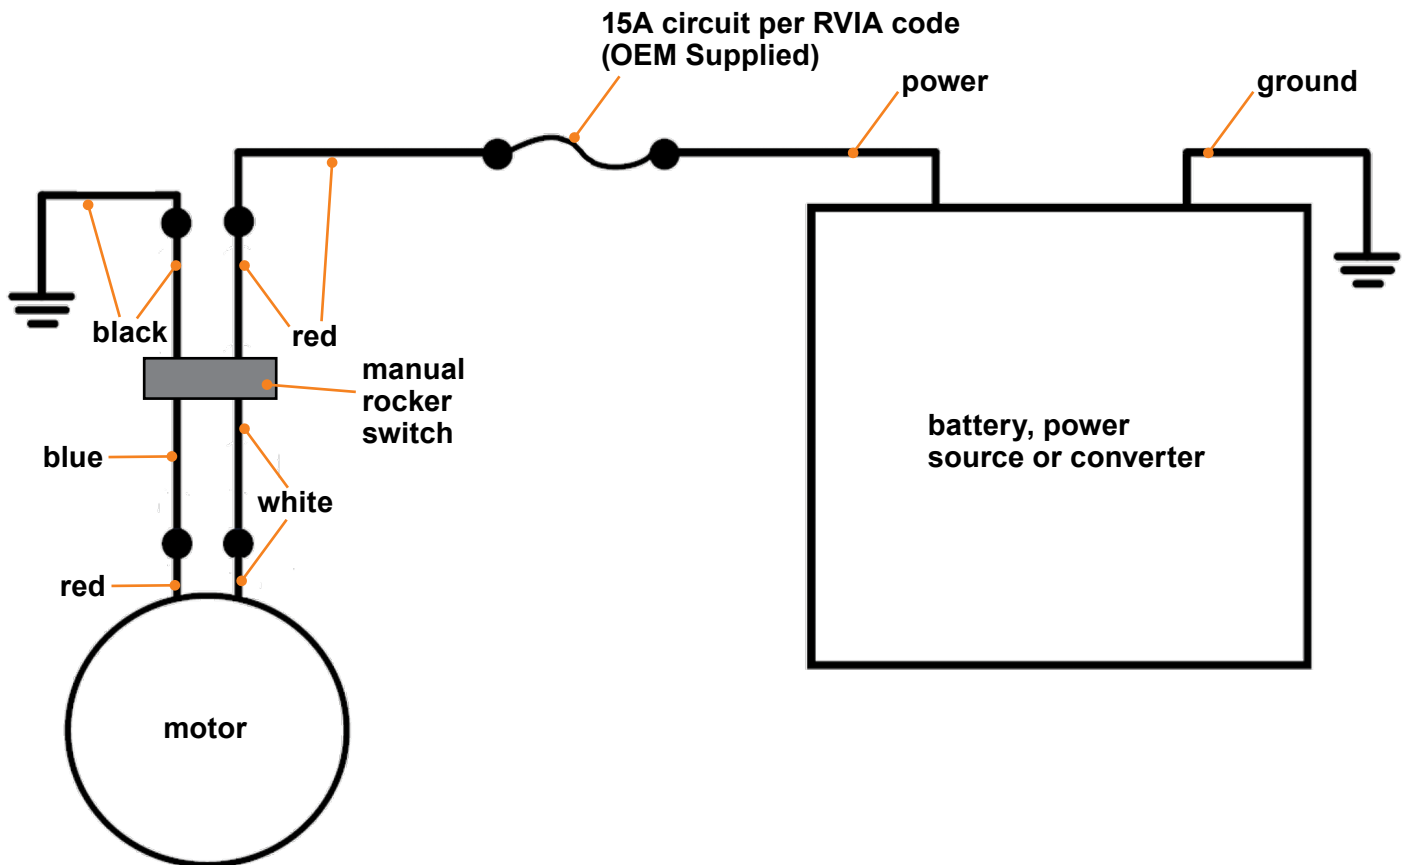

Fig.14
2. Connect wiring from the unit to the switch and the awning drive head per the wiring diagram below (**Fig.14**).